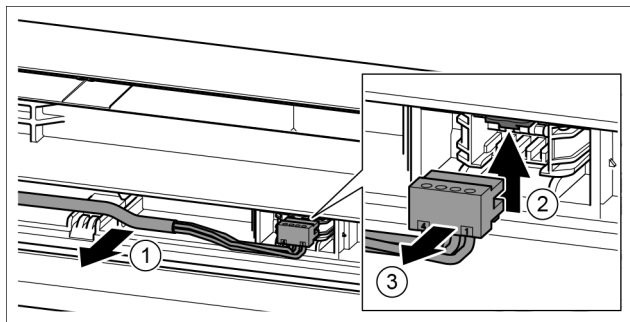

Fig. 19
- Carefully remove the grey cable from the guide in the door. Fig. 19 (1)
- Press the tab upwards. Fig. 19 (2)
- Carefully remove the plug. Fig. 19 (3)